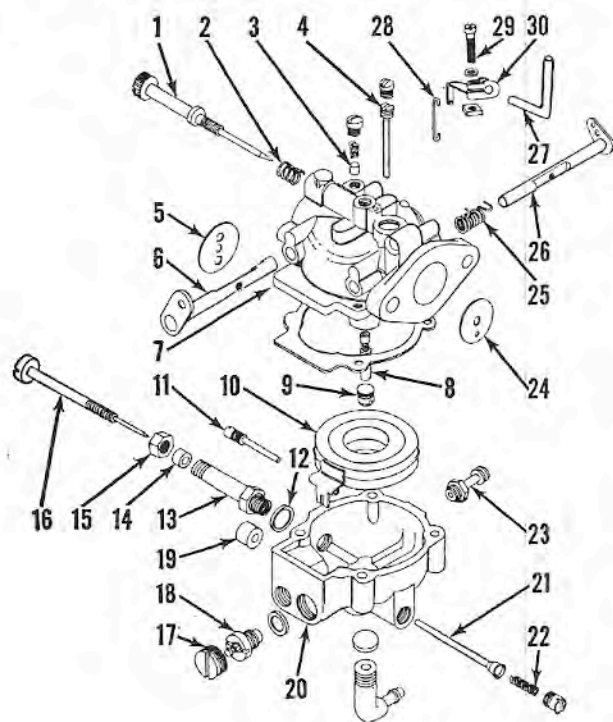

Fig. WB30 — Exploded view of Tillotson MD carburetor.
CARBURETOR. Tillotson, type MD carburetors are used on all models. Refer to Fig. WB30. Normal initial setting is one turn open from the closed position for both the high speed adjustment needle (16) and the idle mixture needle (1). Carburetor must be readjusted under load, after motor is warm, for best high speed and low speed performance.
contacts cam at the scribe mark; then tighten screw (S). As speed control grip or lever is moved further to the "Fast" position, the throttle valve should start to open. Throttle link (28—Fig. WB30) should be hooked in the attaching hole nearest the axis of throttle shaft (26).